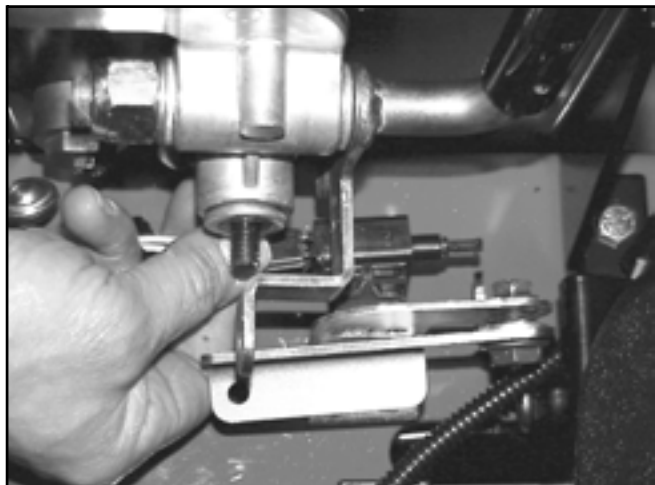

**Figure 68**
4. Remove the nut on the brake link (Figure 68).